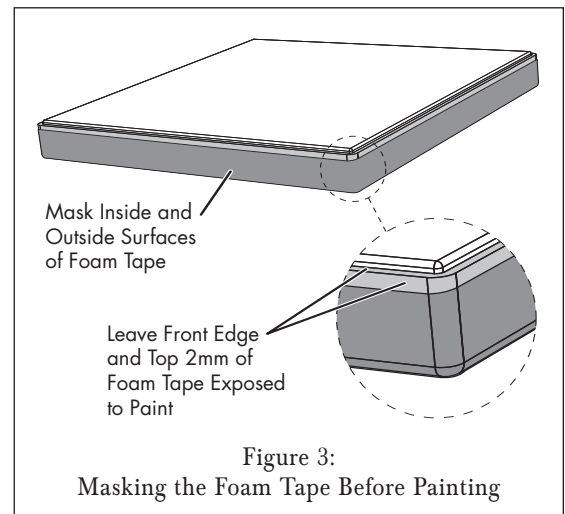

Figure 3:
- A) Use a painter's tape designed for delicate surfaces (such as 3M *Scotch Blue Painter's Tape For Delicate Surfaces*, #2080) to mask the inside and outside surfaces of the Foam Tape on the Finish Component's rim. Leave the front edge and top 2mm of the Foam's outside surface exposed to the paint, since this will be visible when the Finish Component is installed on the speaker. See *Figure 3*.